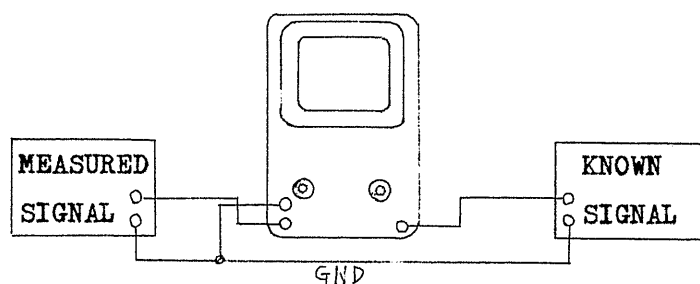

Fig. 6
Prepare a measuring setup as shown in Fig. 6 and display a Lissajous figure on the CRT screen. Measure the apparent phase difference ( $\theta$ ) in the same manner as the inherent phase difference ( $\theta_o$ ) is measured. The actual phase difference ( $\theta_a$ ) between input and output of the amplifier can be calculated as follows:
Set the SWEEP RANGE switch in the EXT HOR position, apply the measured signal to the vertical INPUT terminal, and apply a known signal to the EXT HOR terminal. (See Fig. 6.) Adjust both vertical and horizontal amplitudes at 4 cm with the VERT GAIN and HOR GAIN knobs, respectively. Vary the frequency of the known signal so that Lissajous figures as shown in WAVEFORM 6 are displayed. The figure will continuously vary in the order of (1)  $\rightarrow$  (5)  $\rightarrow$  (1) and will repeat this rotational cycle.